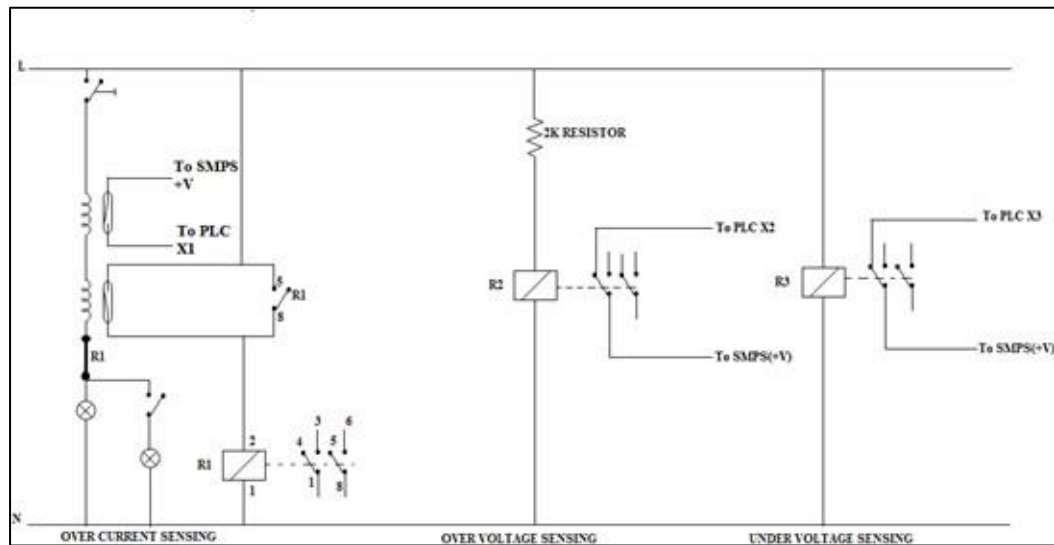

Fig.31 Fault annunciation system
1. Design a fault detector of electrical transmission system for fig.31 using ladder diagram in terms of concepts.